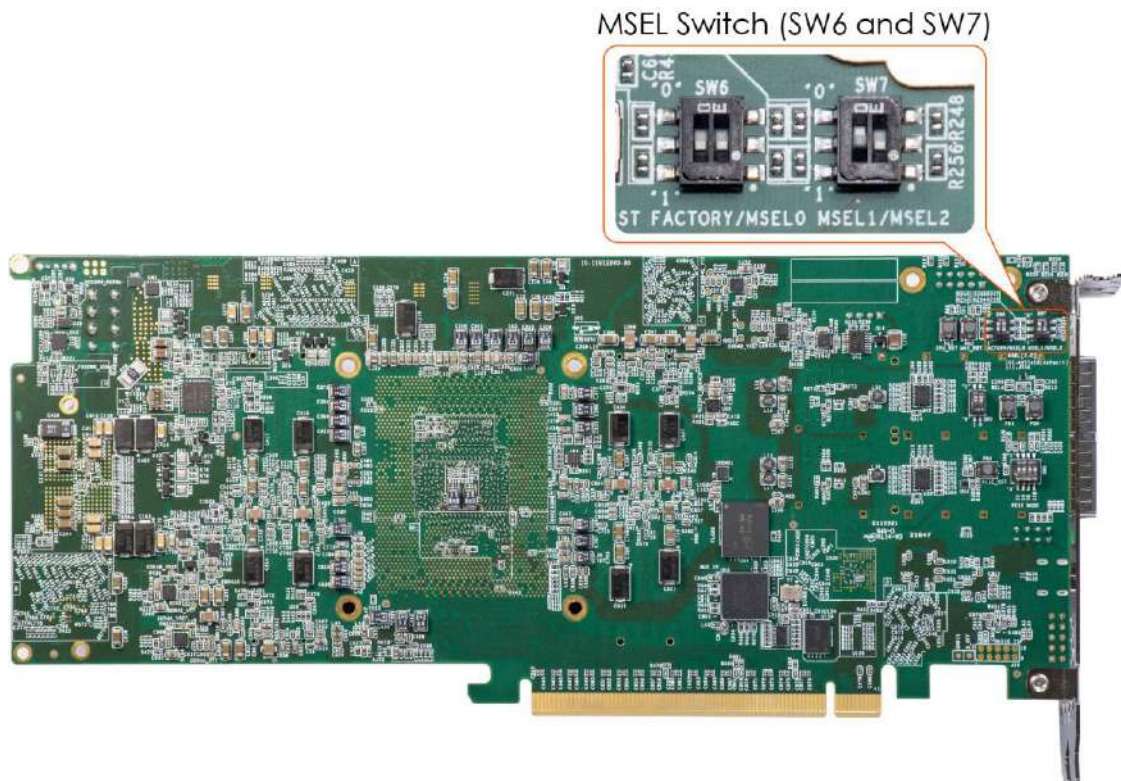
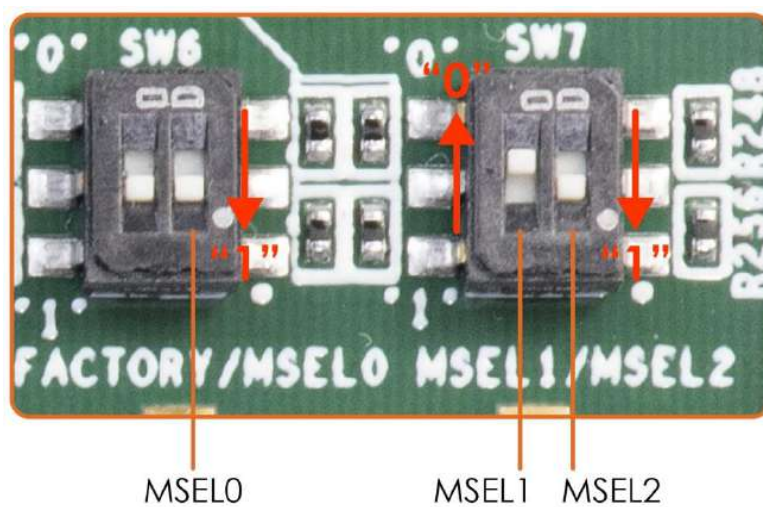

Figure 4-2 Position of the MSEL[2:0] switch
Figure 4-3 Set MSEL[2:0] to "110"
2. Set the FPGA configuration mode to AVSTx16 mode by setting **SW6** and **SW7** MSEL[2:0] as **101** as shown in **Figure 4-2** and Figure 4-3.